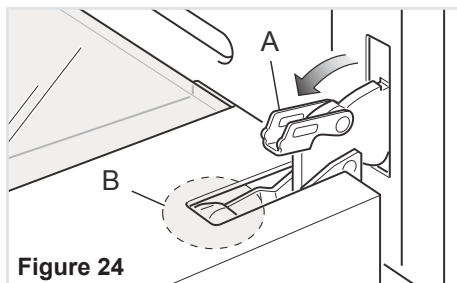

Figure 24
- Fully open the lever "A" on the left and right hinges. (fig. 24).
- Gently close the door until left and right hinge levers "A" are hooked to part "B" of the door (figs. 24, 25).